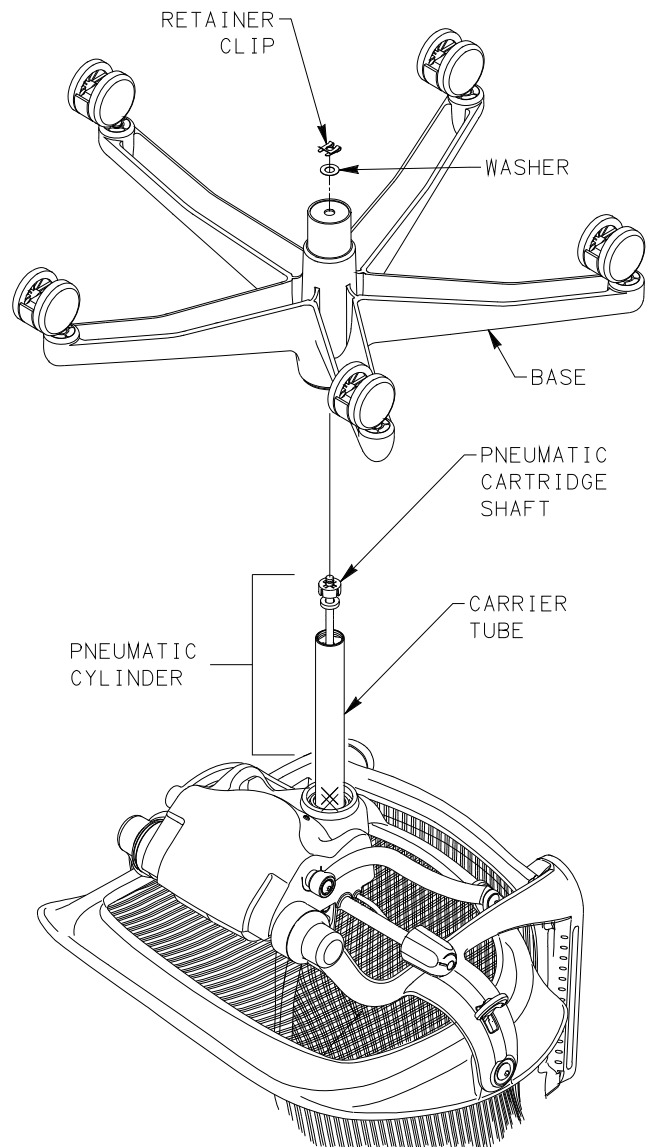

FIGURE 1
7. REMOVE RETAINER CLIP, WASHER, BUMPER AND BEARING ASSEMBLY FROM SHAFT OF REPLACEMENT PNEUMATIC CARTRIDGE AND SET ASIDE. SEE FIGURES 1 & 2.
9. INSTALL BASE OVER PNEUMATIC CYLINDER. SEE FIGURE 1.
10. PLACE WASHER OVER SHAFT OF PNEUMATIC CARTRIDGE PROTRUDING FROM BASE AND SECURE WITH RETAINER CLIP. SEE FIGURE 1.